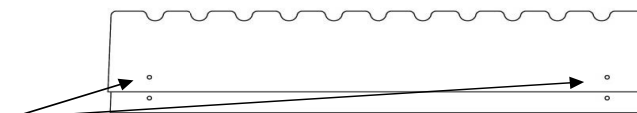

FIGURE 8
6. Apply adhesive around the perimeter of the large box. Compress the small and large support box structures back together to the appropriate markings made earlier on the small box. Place the support structure back into the channel and insert the CleanCut Ultra-Low to verify that proper placement has been achieved. Secure both sides of the support structure by placing two screws in each side (Figure 8).